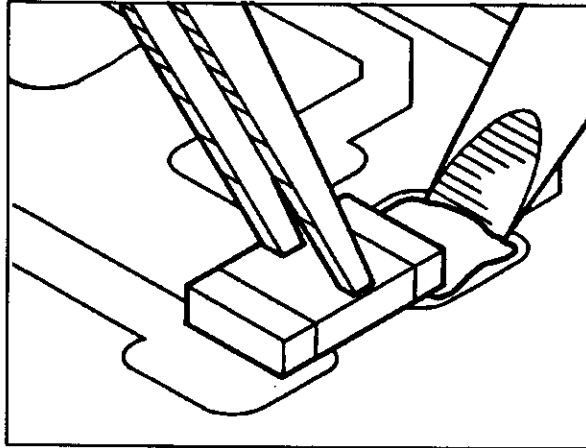

Figure 3 - 4
5. With one component end tacked to hold it, the other end can be soldered. Carefully apply heat to the PC pad while adding only enough fresh solder to produce a clean fillet as in Figure 3 - 5 — do not apply too much solder, otherwise it may flow underneath and short the pads together. Let the hot solder flow onto the component — do not touch the component with the iron. Repeat to finish the other end of the component. Solder must adhere to all metallic end-surfaces on both ends as shown in Figure 3 - 6.